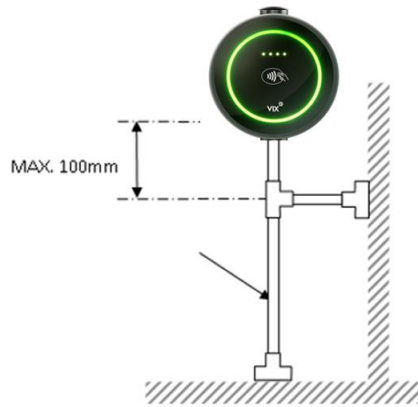

Figure 12: Compact Validator Preferred Pole Mounting Bracing
- The preferred Compact Validator pole mounting bracing is shown in Figure 12.